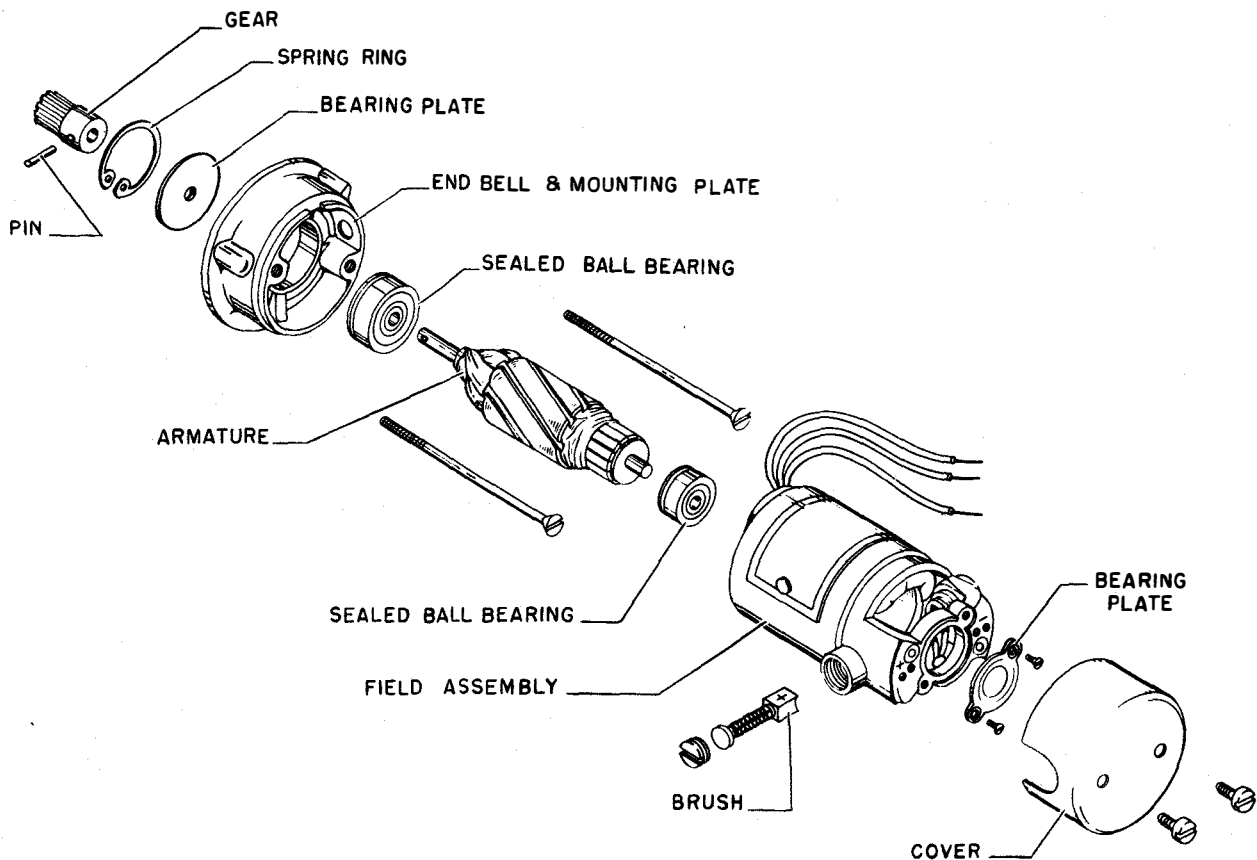

Figure 7-35. Selector Motor, Exploded View
c. CHANNEL SELECTOR MECHANISM.—Repairs and adjustments to the selector mechanism usually require the removal of the assembly from the chassis. This process is simplified by first dismantling the selector motor. The details of the selector motor are shown in Figure 7-35.
(1) SELECTOR MOTOR.
(b) COMMUTATOR.—To inspect the commutator, remove two screws (Figure 7-35) from the end cover and slide the cover off the bracket. Refer to paragraph 2b(2)(a) in this section for instructions on commutator and brush servicing. If the commutator is uneven, rough, or pitted badly, install a new motor from spares while repairs are being made.